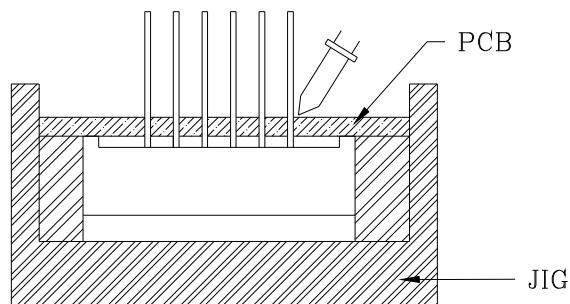

Fig.2
2) Similarly, when a jig is used to solder the Display to PC board, take care as much as possible to avoid steering the PIN (See Fig.2).